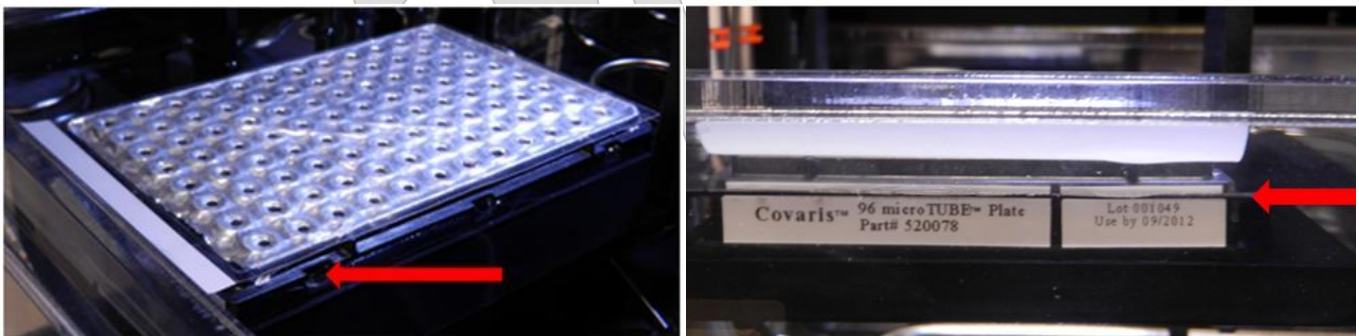

Figure 4: Red arrow indicates the water level for shearing samples in a microTUBE plate. The water level must be at the very TOP of the black plate holder
- 5.8. Figures 4 and 5 show the correct water levels for the microTUBE plate and microTUBE rack. The microTUBE plate sits higher on the stage than the microTUBE rack, so the tank water level must be higher, near the top edge of the microTUBE plate. The water levels must be adjusted manually to reach these points, which is done by opening the door (press the “DOOR” button and pull the handle) and either removing or adding ddH₂O. Note: no degassing is necessary when removing or adding small amounts of water to bring the tank to the desired level.